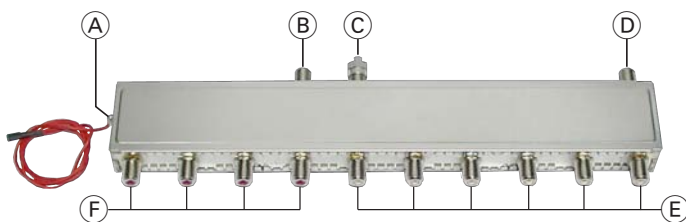

Fig. 2
Loss (D) $\rightarrow$ (E) (s. Fig. 2):	9 ... 14 dB
- Connect the outputs (E) and (F) (fig. 2) to the appropriate inputs of the modules.